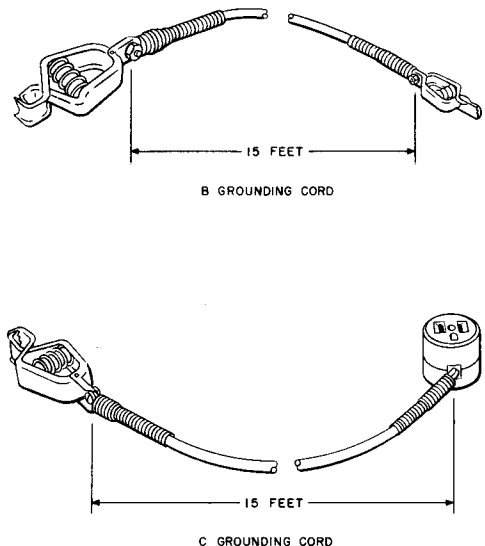

Fig. 8 — Grounding Cords
E. Grounding Cords (See Fig. 8.)